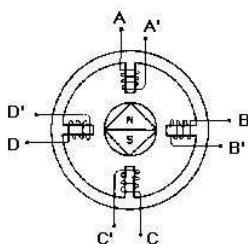

Figure 6: Permanent Magnet Motor
Permanent Magnet (PM) - PM stepper motors differ from VR stepper motors by having permanent magnet rotors with no teeth that are magnetized perpendicular to the axis. In energizing the four phases in sequence, the rotor rotates as it is attracted to the magnetic poles. The stepper motor shown in Figure 6 will take 90 degree steps as the windings are energized in sequence ABCD. PM's generally have step angles of 45 or 90 degrees and step at relatively low rates, but they exhibit high torque and good damping characteristics. Anaheim Automation carries a wide selection of PM stepper motors, ranging from 15 to 57mm in diameter.